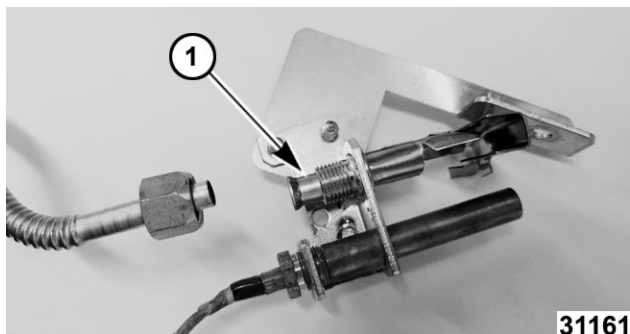

Fig. 23
4. Pull orifice (1, Fig. 23) out and replace.